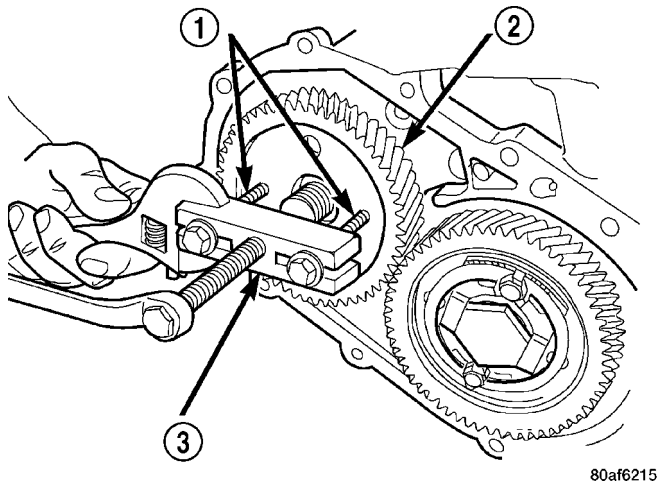

Fig. 54 Remove Transfer Shaft Gear
(38) Using tool L-4407A, remove transfer shaft gear (Fig. 54).